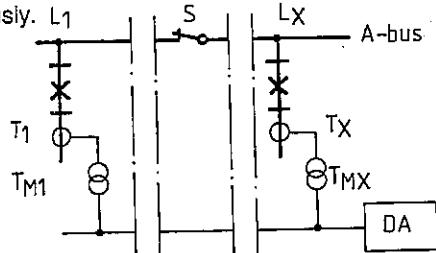

Fig. 1 Single bus, 1-zone with bus section switch normally closed
The most simple and reliable installation is the single bus 1-zone arrangement (Fig. 1). In this case it can also be permitted that a bus section switch (S) is opened at certain times to split the bus in two parts. As long as there is no internal fault the RADSS diff relay remains stable. This applies even when the two bus sections are working asynchronously, e.g. at different frequencies. However, when an internal fault occurs, both sections will always be tripped simultaneously.